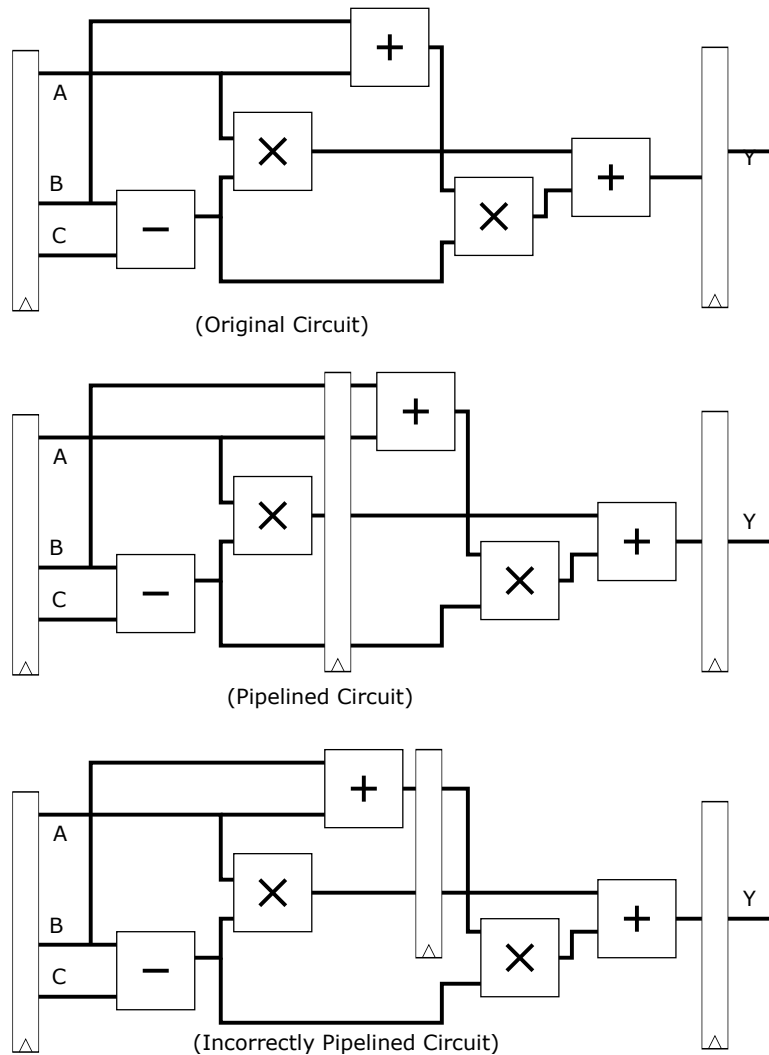

Figure A.1: Pipelining a feedforward circuit. (a) original circuit; (b) with 1 pipeline register; (c) incorrectly pipelined circuit.
In theory, any feedforward circuits can be sped up by pipelining the datapath. For instance, Figure A.1 shows several circuits with different pipelined datapaths that perform the same mathematical function:
A.2.1 For each of the circuit (both (a) and (b)) in Figure A.1, determine the following:
A.2.3 Redesign the circuit in Figure A.1 such that it can run with maximum processing throughput (number of results per second) while keeping the overall function unchanged. You may make zero or more of the following changes: